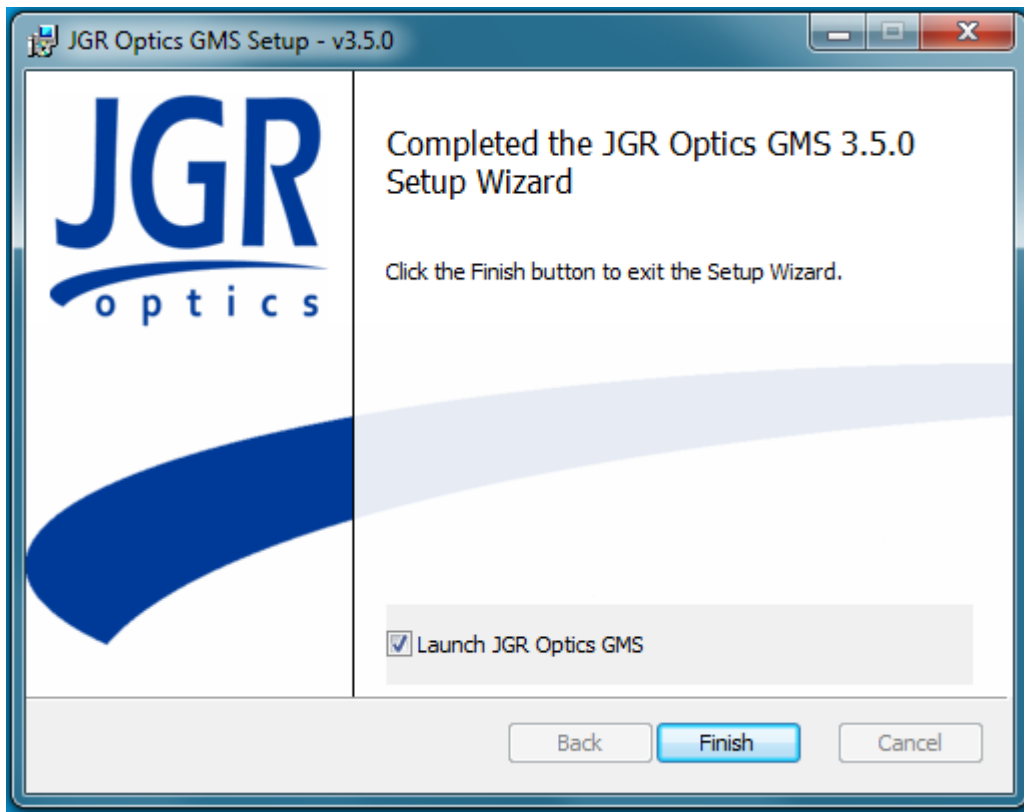

Figure 3.2: Finish the installation and open the GMS.
- Step through the wizard to complete the installation. If the installation was successful you will see the window in Fig. 3.2.